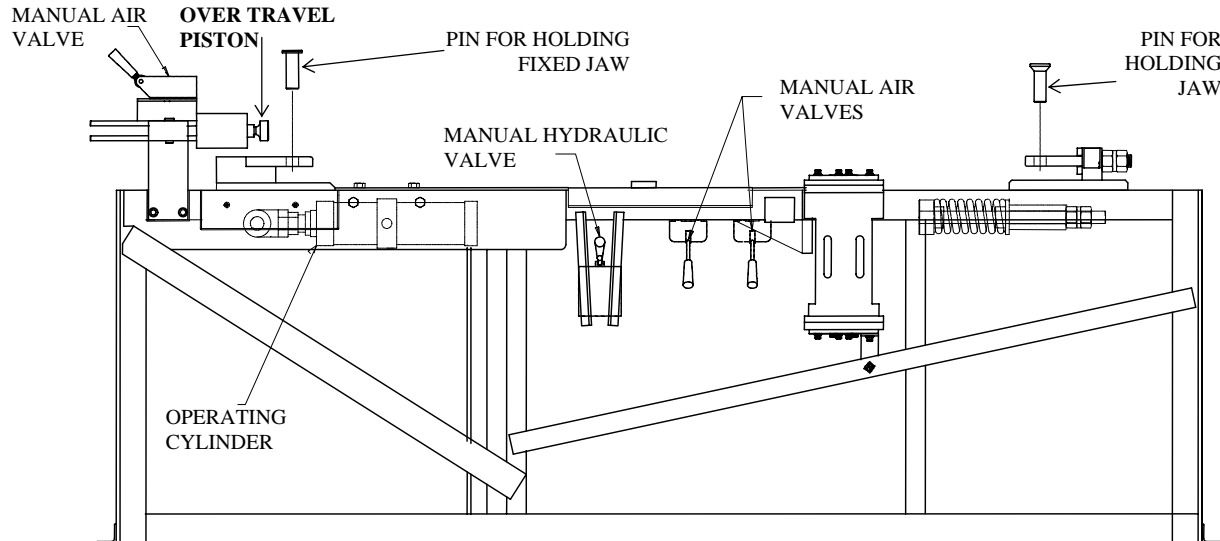

Figure 4: 2000-DJ Slack Adjuster Test Fixture
- 12.1 Place slack adjuster in the test fixture (See Figure 4).